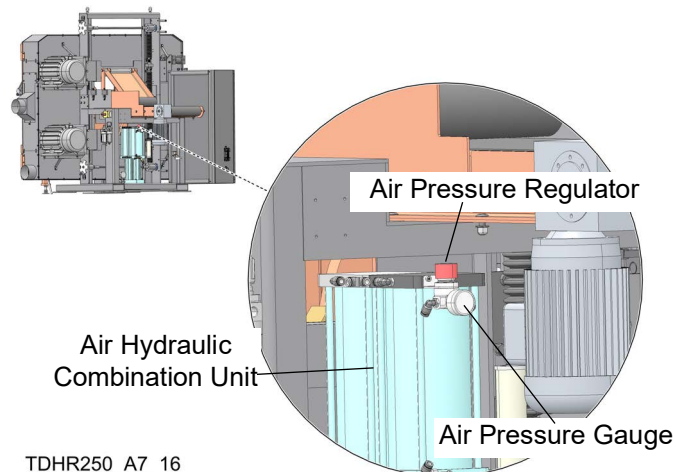

FIG. 3-15
1. Turn air pressure regulator on air hydraulic combination unit. See FIG. 3-15